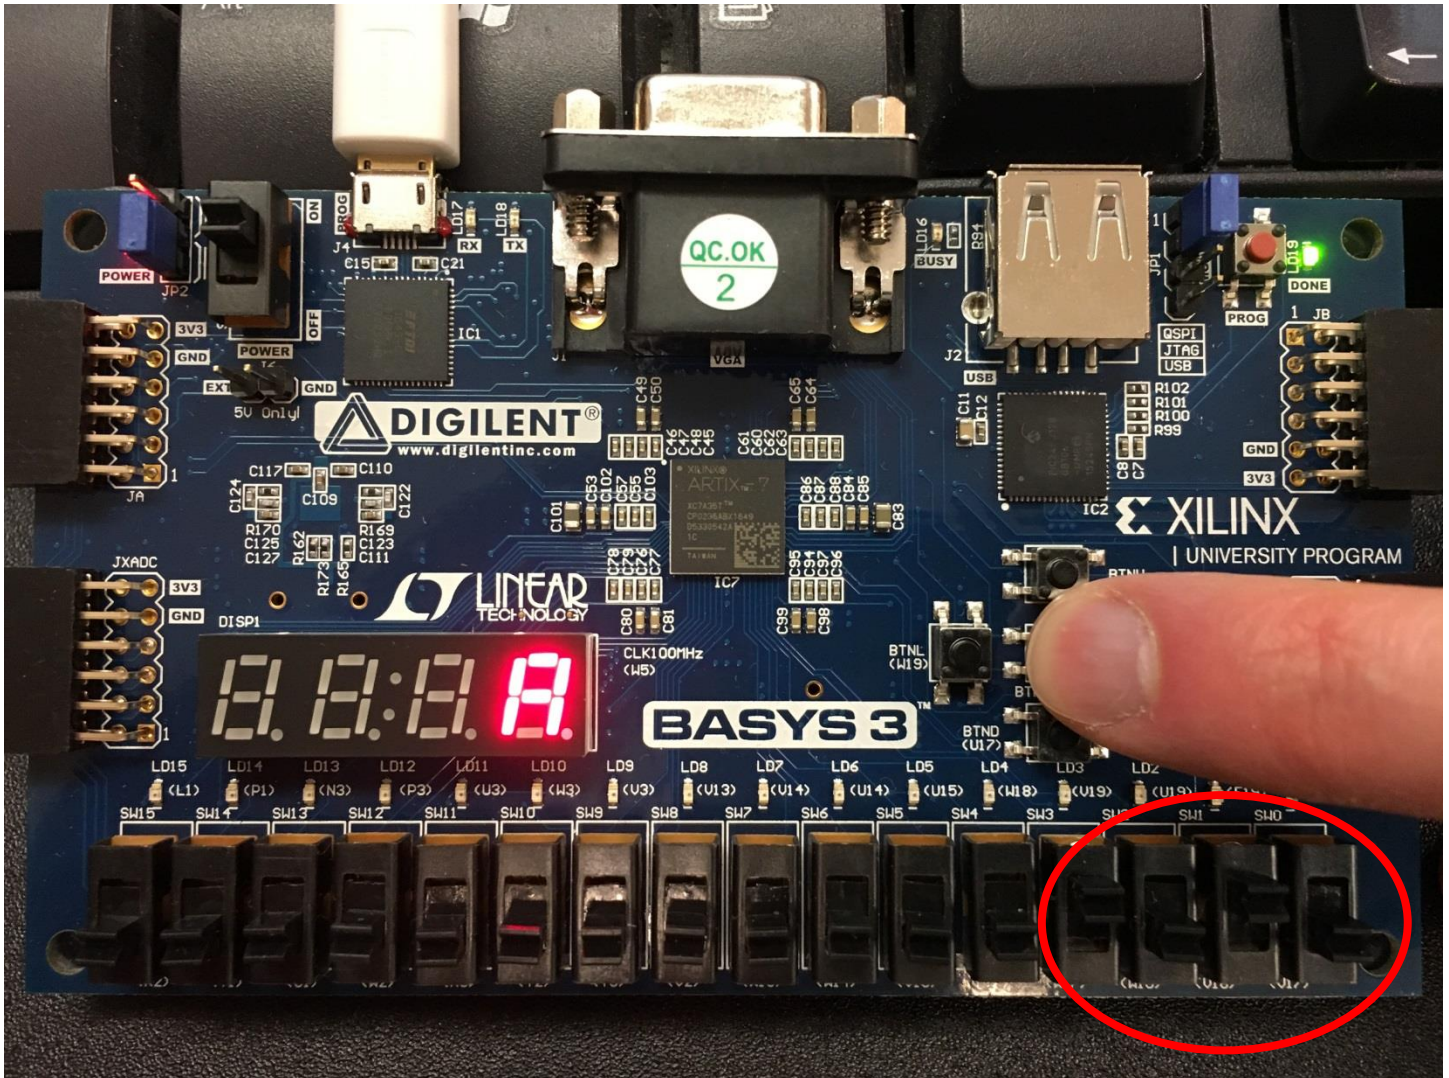

FIGURE 1 – EXAMPLE DEMO OF FINAL HARDWARE IMPLEMENTATION FOR BINARY TO HEX QUIZ.
**Big Picture:** In this lab, you will develop a hardware-based binary to hex converter. To do this, you will write, test, and implement a seven-segment display decoder on the Basys3 Development Board. A four-bit value will be input using switches (circled in red in Figure 1 below). Upon pressing the center button, a seven-segment display will output the correct hex digit.